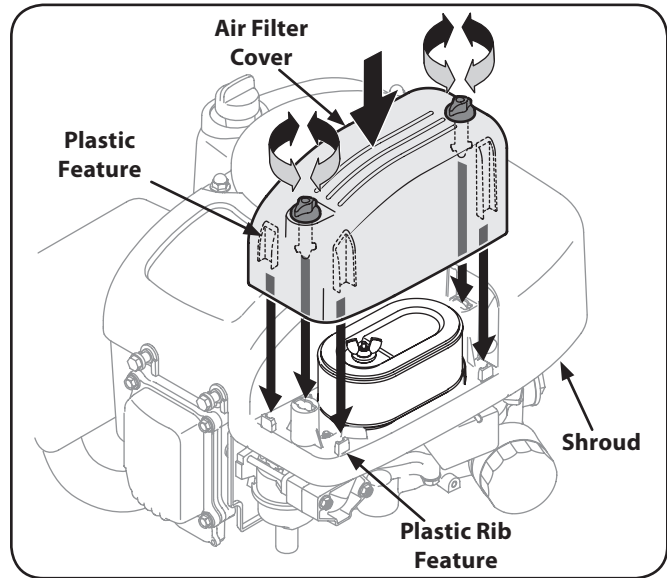

Figure 6-8
- Attach the air filter cover, making sure to align thumb screws and plastic rib features on the shroud to the plastic features on the air filter cover. See Figure 6-8. Turn thumb screws clockwise until snug. Check for any misalignment.